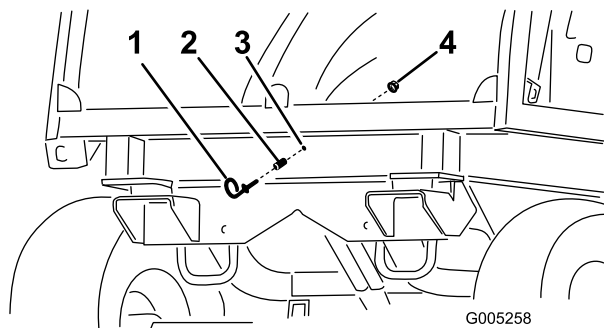

Figure 71
2. From the front of the cab, install the eyelet and spacer to the cab wall with a flange nut (Figure 71).